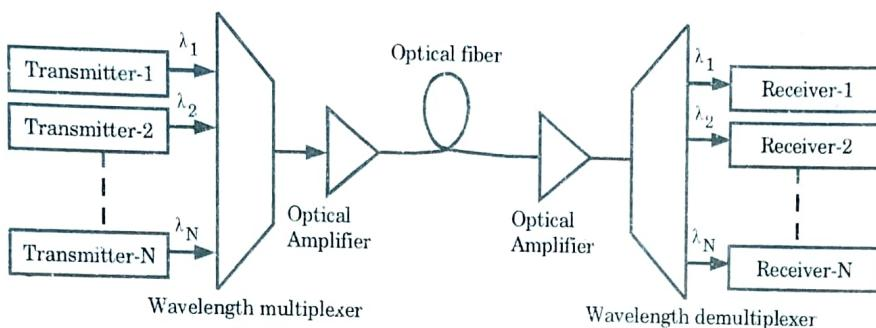

Fig. 5.16.1. Transfer characteristics.
2. Fig. 5.16.1 shows a typical WDM link. At the transmitting end, there are several independently light sources, each emitting signal at a unique wavelength.